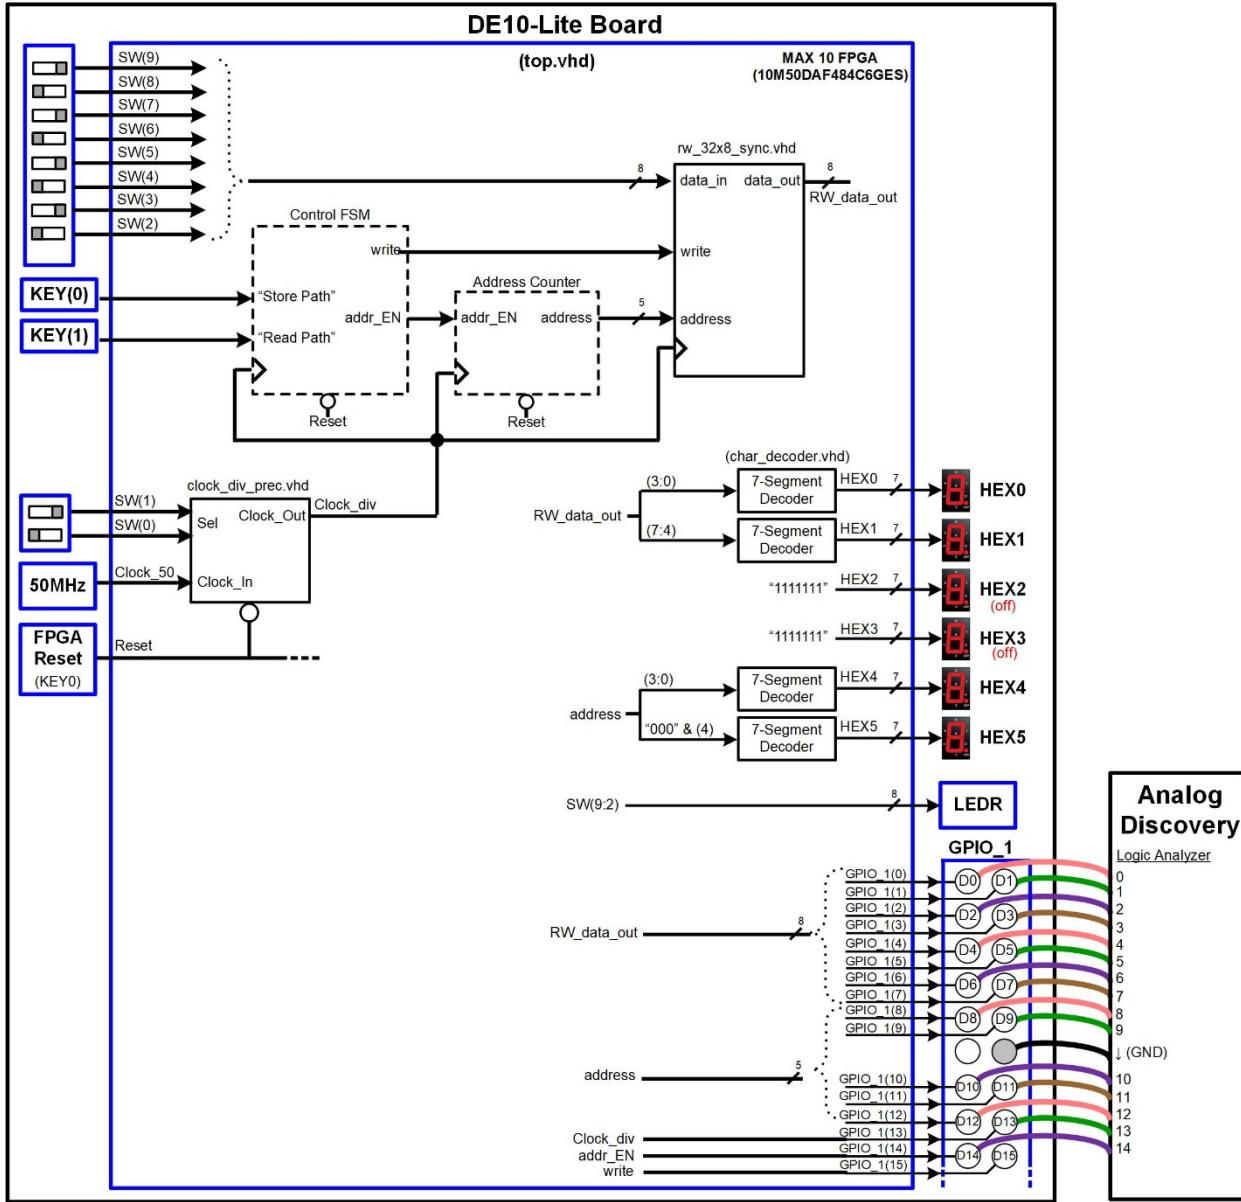

Figure 10.6
When KEY(0) is pressed, the information on the slider switches will be written to the next address in the R/W array. The control FSM will enable the address counter for one increment and then assert the write signal for the memory. In this way, information can be populated into the R/W array by setting values on the switches and continually pressing KEY(0). When KEY(1) is pressed, the address counter will run freely in order to output the data at each location within the R/W array. In this way, the contents of the array can be verified to ensure that the write operations were successful. All critical signals will be connected to pins on the GPIO header for observation with the logic analyzer. Figure 10.6 shows a block diagram of the R/W system.
Now you are going to take a logic analyzer measurement of the R/W system during a store. Connect the logic channels 0 → 15 of the Analog Discovery to the GPIO header as shown in Figure 10.6 and **Error! Reference source not found..** Make sure to connect a ground of the Analog Discovery to a ground on the GPIO header. Launch Waveforms and click on the Logic tool. In the logic analyzer tool, add new busses for "address" and "RW_data_out"